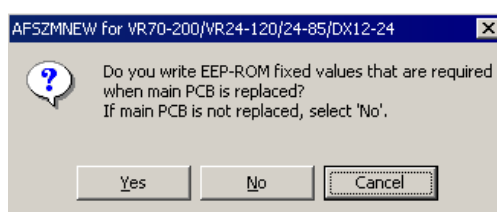

Fig.2
- ③ The screen for "Writing of EEP-ROM Fixed Values" appears. Click the appropriate item. (Fig.2)